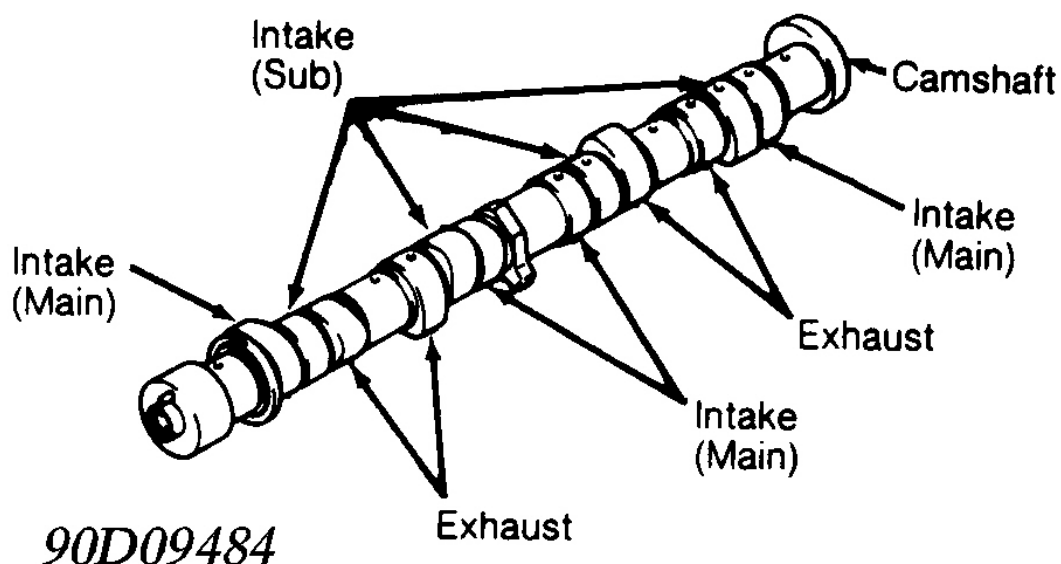

Fig. 10: Measuring Camshaft Lobe Height
1. Inspect components for damage. Check camshaft journal diameter, lobe height and runout. See **Fig. 10**. Replace camshaft if not within specification. See **CAMSHAFT** table under ENGINE SPECIFICATIONS.